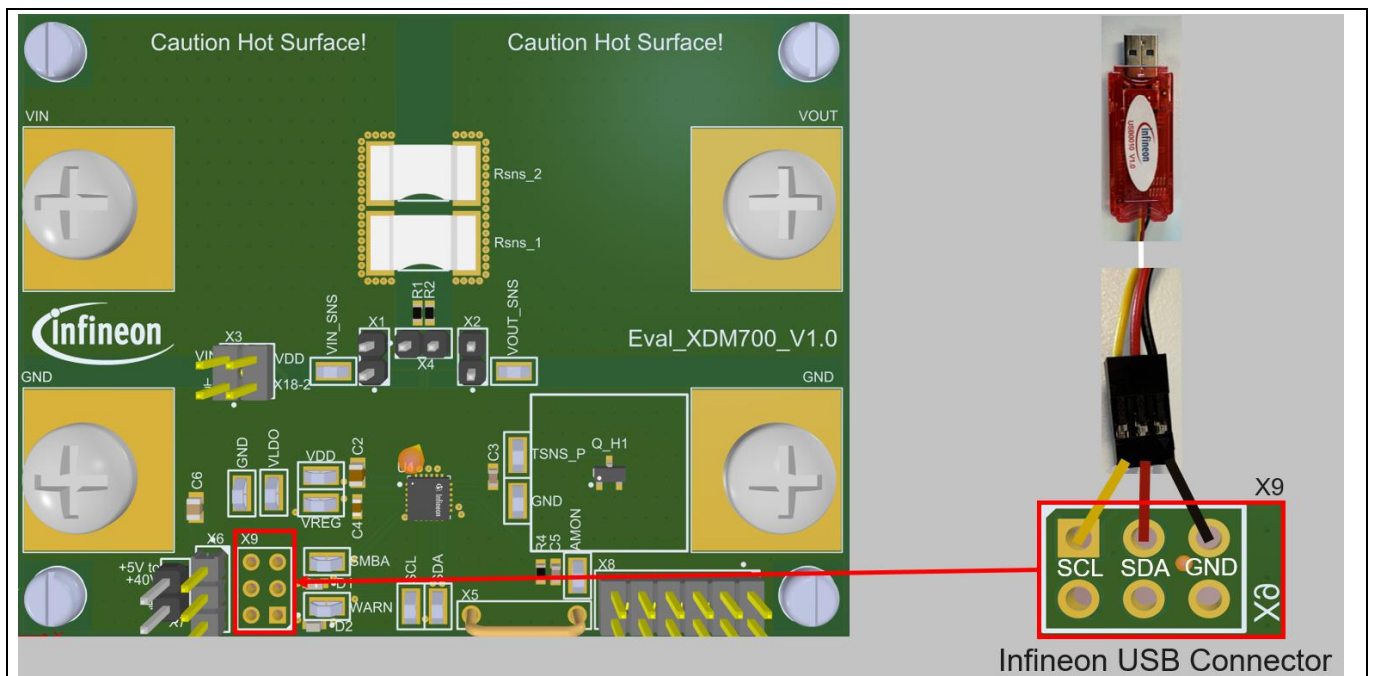

Figure 5 XDM700-1 Evaluation Board and dongle setup
1. Connect the USB0010 dongle to the XDM700-1 Evaluation Board X9 as shown in Figure 5